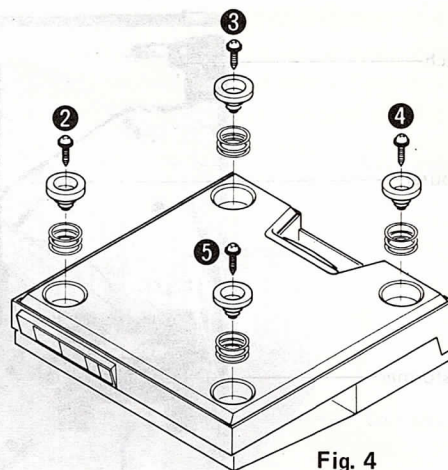

Fig. 4
3. Remove the 4 bottom board setscrews (Fig. 4: ② ~ ⑤).